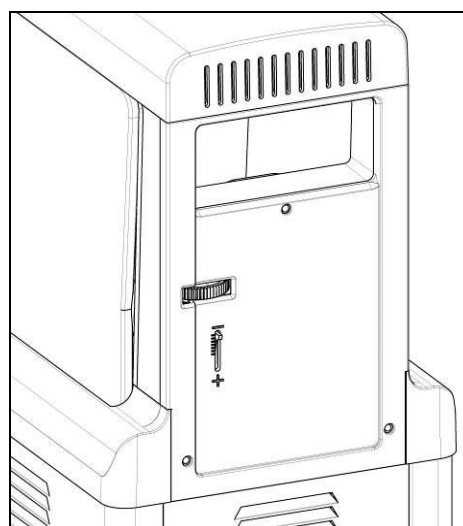

Fig. 25
- Adjust the consistency to the desired level by turning the wheel located on the back of the machine (fig. 25); by turning clockwise to the left, the level indicator will move towards the - sign and the product will become less dense, by turning counter clockwise to the right, the level indicator will move towards the + sign and the product will become denser.
- If the product does not have the desired consistency, it is necessary to set switch B to position 0, adjust the consistency as desired (fig. 25) and restart the cycle from phase A by positioning switch B back to position SNOWFLAKE (chapter 9).